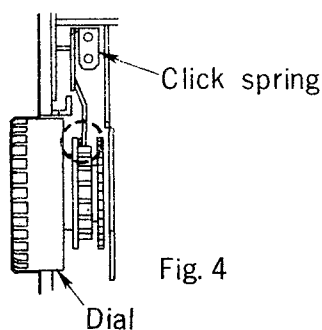

Fig. 4
6. Check the location the dial and the click spring. (See Fig. 4)